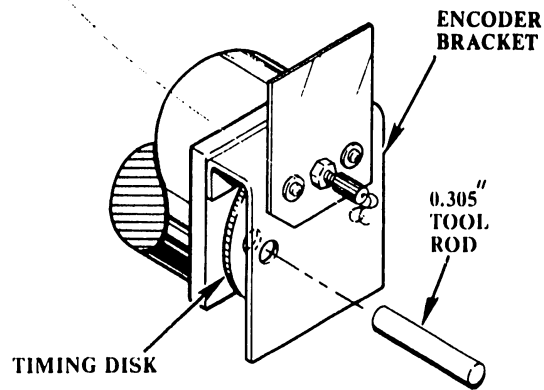
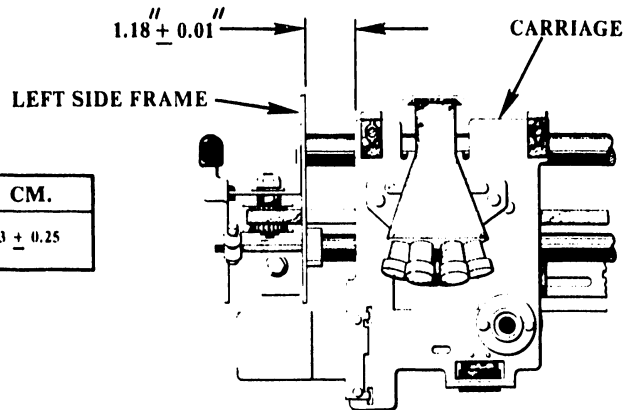
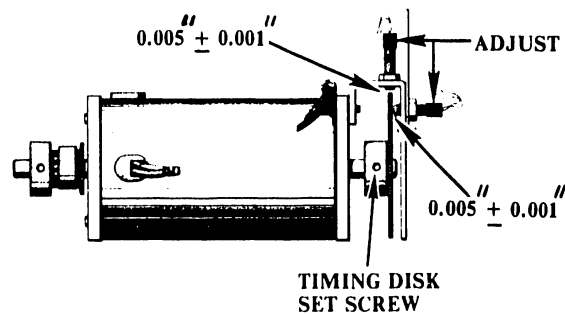

FIGURE 6-26 TIMING DISK ALIGNMENT HOLE
FIGURE 6-27 DISTANCE BETWEEN CARRIAGE AND LEFT SIDE FRAME
FIGURE 6-28 TIMING DISK AND SENSORS
- 1) Place the 0.305" tool rod through the encoder-bracket hole (see Figure 6-26) and into the timing-disk hole. Check for a distance of $1.18" \pm 0.01"$ ($3 \text{ cm} \pm 0.025 \text{ cm}$) between the carriage assembly and the left side frame (see Figure 6-27).
- 2) The distance between the edge/face of the timing disk and the pick ups should be consistent along the circumference of the disk with a gap of $0.005" \pm 0.001"$ ($0.0127 \text{ cm} \pm 0.025 \text{ cm}$). (See Figure 6-28.)
- 1) Loosen the timing disk set screw (See Figure 6-28), and slide the 0.305" tool rod through the encoder-bracket hole and into the timing-disk hole. (See Figure 6-26.)
- 2) Move the carriage $1.18" \pm 0.01"$ ($3 \text{ cm} \pm 0.025 \text{ cm}$) from the left side frame and tighten the timing-disk set screw (refer to Figures 6-27 and 6-28).
- 3) Loosen the index hole magnetic reluctance pickup locking nut. (See Figure 6-28.)
- 4) Back out the pickup and place a 0.005" (0.0127 cm) gauge between the pickup and the timing disk. Turn the pickup in until it just contacts the gauge and retighten the locking nut. (Refer to Figure 6-28.)